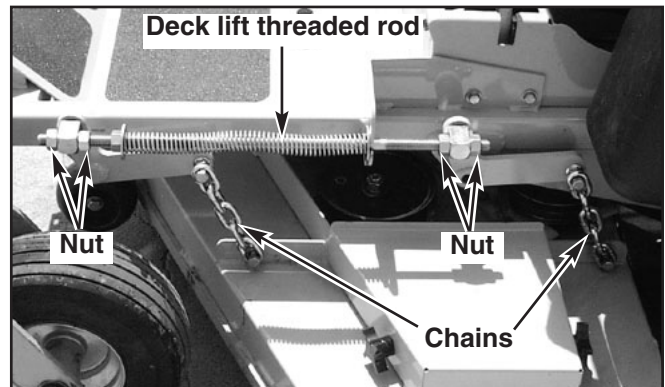

Figure 11-35
6. Loosen all nuts on the deck lift threaded rods, and the hardware on the adjuster (on the right front), until **all** the deck lift chains are loose, **and** the deck is sitting tightly on all four blocks. Fig. 11-35, 11-36, 11-37
24. Make sure that there is still slack in the chain. If not, loosen the two nuts on the block holding the threaded rod until there is slack in the deck lift chain. Fig. 11-35